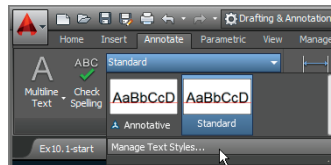

FIGURE 10.1 Managing text styles
1. On the ribbon's Annotate tab, open the first drop-down menu (for text styles). Every drawing has both an Annotative and Standard style by default. Select **Manage Text Styles** at the bottom of the panel (see Figure 10.1).